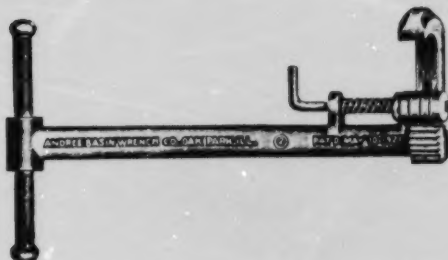

Figure 1-137. Basin Wrench
- b) The handy basin wrench shown in Figure 1-137 fits where no other standard wrench will, such as in water-closet tanks, under basins, or in tight corners.